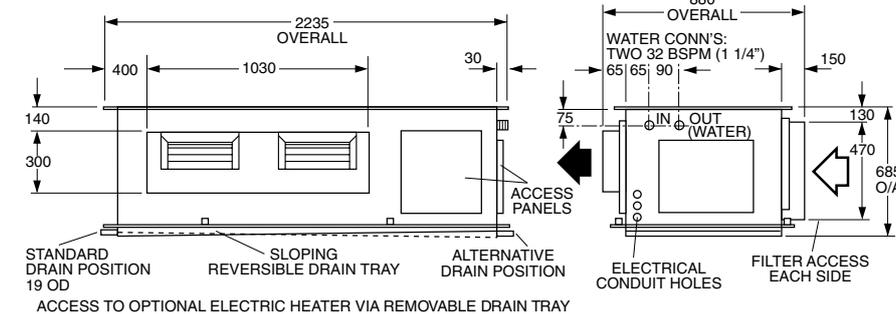

Fig. 2 Spring Mounting
**It is recommended that the unit be mounted using the spring mounting system, supplied as an optional extra (Fig.2). This system minimises transfer of vibration into the building structure.**